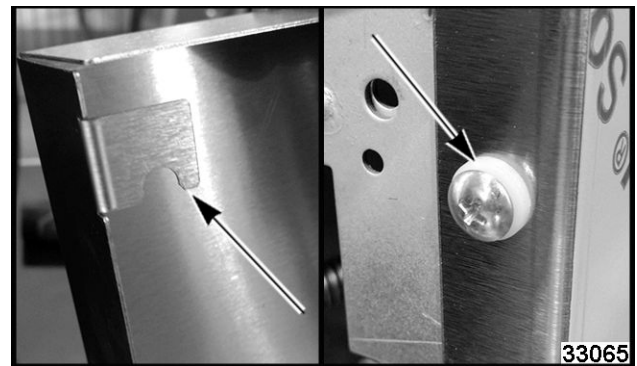

Fig. 91
3. Lift cover up and off retainer screws (Fig. 91).